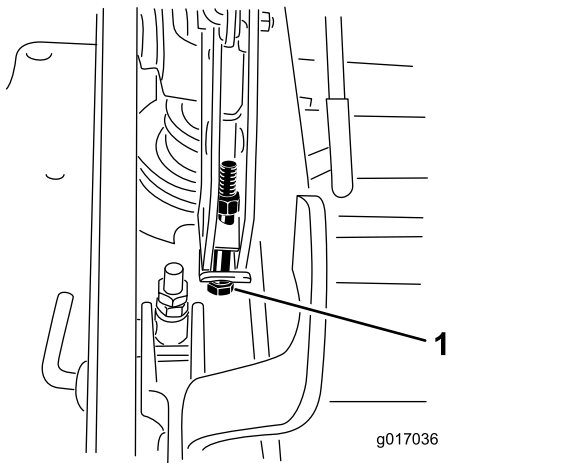

**Figure 89**
12. To adjust the single-point system, loosen the 2 bolts at the bottom of the height-of-cut plate (Figure 89).
14. Tighten the 2 bolts at the bottom of the height-of-cut plate (Figure 89).